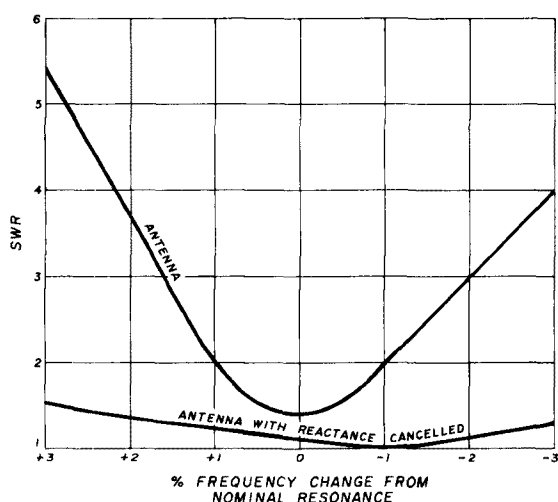

fig. 3. Typical swr for dipole antenna with and without corrective steps.
The solution to the problem introduced by this reactance change is simple — use an antenna tuner. Furthermore, since antenna reactance causes most of the swr change, we can use a single variable element. The other antenna tuner elements can be fixed. The improvement possible by this reactance control method is evident from fig. 3. The upper curve is the swr expected with a typical wire dipole fed with a 50-ohm line. The swr reaches 2:1 for a one-per cent change in frequency. By simply cancelling the reactance, the swr seen by the transmitter changes to the lower curve. Its minimum swr is now lower, reaching 1.0; and 2:1 is reached only after a 5½ per cent frequency change. Note that the minimum swr occurs at a different frequency as far as the transmitter is concerned. Note also that the swr on the line does not change: it reaches about 7:1, causing increased voltage across the line, which may cause breakdown with small line and high power. The high swr also causes a small increase in line loss, usually entirely negligible. The
Frequency doublers are preferred for multipliers since they are more efficient (especially the push-push type), more stable, and easier to filter. Frequency triplers, however, are acceptable when the output is below 300 MHz. Typical doubler circuits are shown in fig. 3.
fig. 3. Two frequency doubler circuits which are recommended for use with vhf/uhf converters. The doubler in (A) is suggested for inputs in the range from 90 to 120 MHz. The doubler in (B) is recommended for inputs in the range from 180 to 220 MHz. The 1N914 diode in series with the power supply lead is the "idiot" diode discussed in the text.